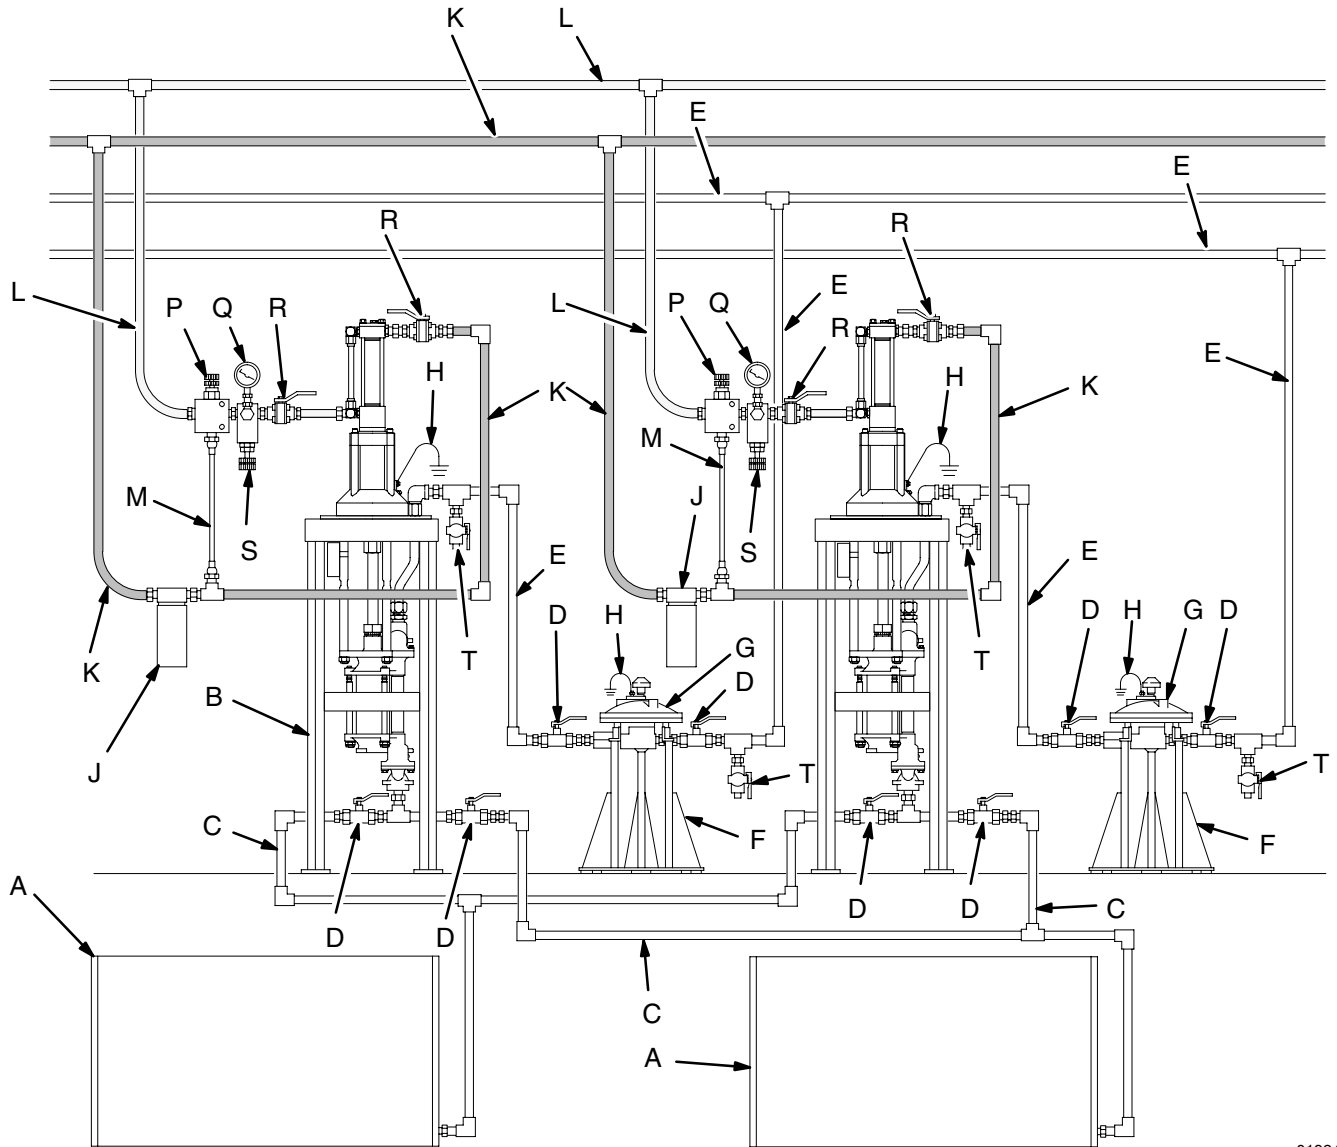

Fig. 3
1. The shutoff valve (R) isolates the motor when servicing the system. See Fig. 3.
2. The hydraulic fluid pressure gauge (Q) monitors the hydraulic oil pressure to the motor. This helps avoid overpressurizing the motor or displacement pump.
3. The pressure- and temperature-compensated flow control valve (S) prevents the motor from running too fast, which can damage it.
4. The pressure reducing valve (P) which has a drain line (M) running to the return line (K), controls the hydraulic pressure to the motor.